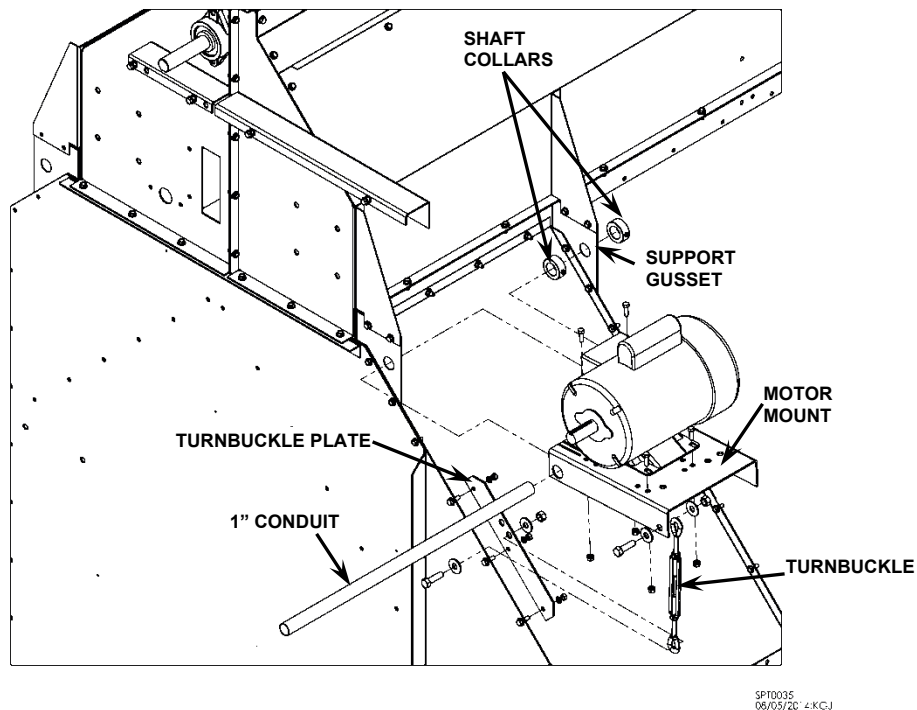

Fig. 2-28 - Motor mount components
2. Align motor mount conduit holes with holes in support gussets. Slide a 1" conduit tube through gussets and motor mount as shown in Fig. 2-28.
3. Position shaft collars on each side of gusset as shown in Fig. 2-28.
5. Bolt turnbuckle plate to side of dryer. See Fig. 2-28.
6. Bolt turnbuckle to motor mount and to turnbuckle plate as shown in Fig. 2-28 and Image 2-1 using 1/2 x 1-3/4" bolts, 1/2" flat washers and 1/2" lock nuts.
7. Bolt motor to motor mount using 5/16 x 1" bolts and 5/16" nuts and washers. See Fig. 2-28.